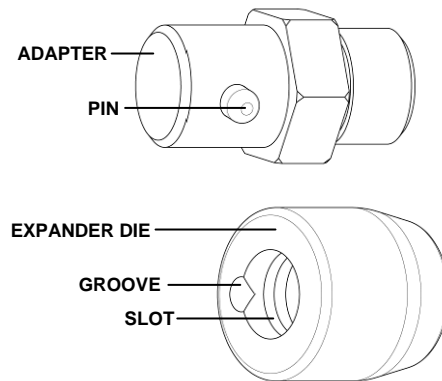

Figure 18. Quick Release Tooling
Our patented quick release tooling (see Figure 18) is a popular option on any model equipped with a swager. Caution must be taken to install tooling properly to avoid damaging tooling. To install tooling read and follow the procedure below:
1. Always thread tools on cylinder shaft until hand tight, (refer to page 16 & Figure 18 for proper quick release installation).